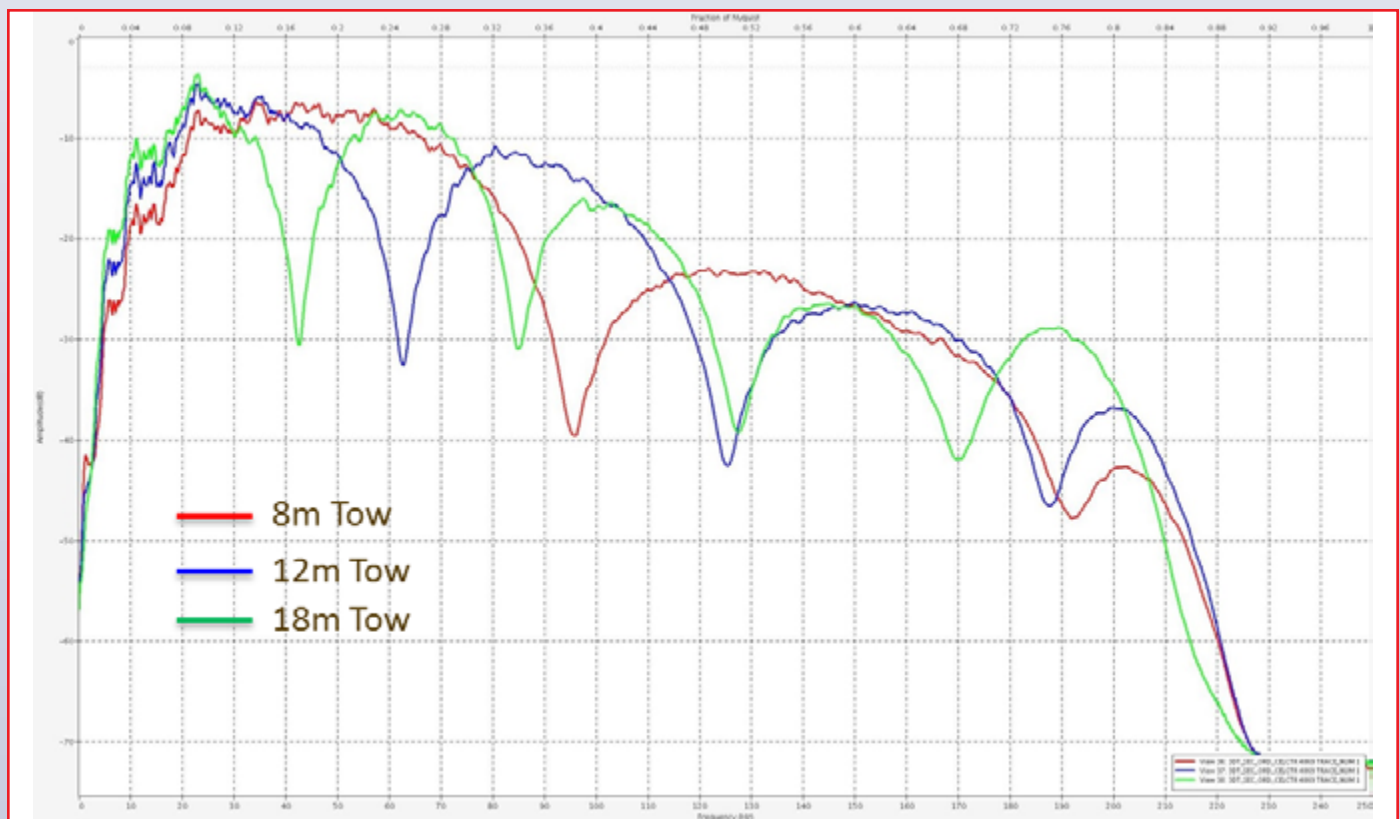

Figure 4: Spectral analysis of stacked marine seismic data recorded with 8m (red), 12m (blue) and 18m (green) streamer deployment.
- Deployment of streamers at two different depths. This yields the potential to distinguish the up-going energy from the down-going energy at each point along the streamer. **Figure 4** shows the ghost notches present on streamers with different deployment depths. Note how the notches in the spectrum vary, and can potentially be "filled in" by use of streamers at two different